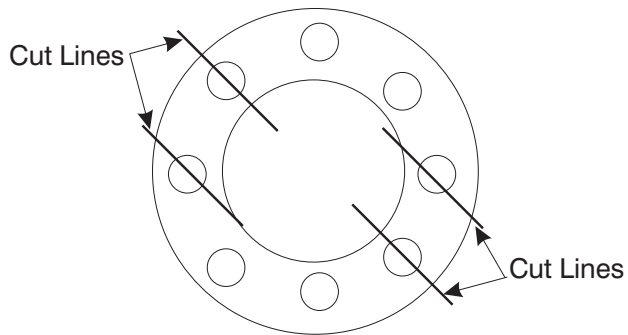

Figure 8-23. Cutting Pattern to Remove Shock Absorber from End Cap
6. Use a sharp knife or hack saw to cut through the Shock Absorber (8), and remove it from the End Cap. See Figure 8-23 for recommended cutting pattern.